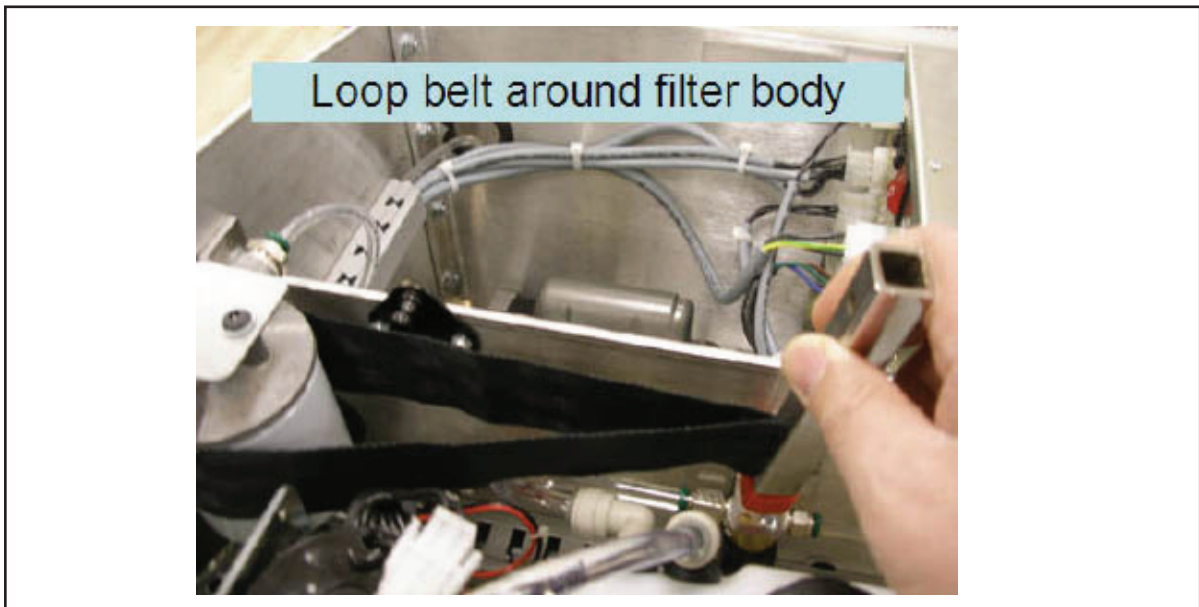

Figure 6-18
2. Place a terry towel in the machine underneath the spin on filter. Remove the filter using the filter wrench and turn counter-clockwise to loosen. Drain and discard the used filter. Refer to Figure 6-18.